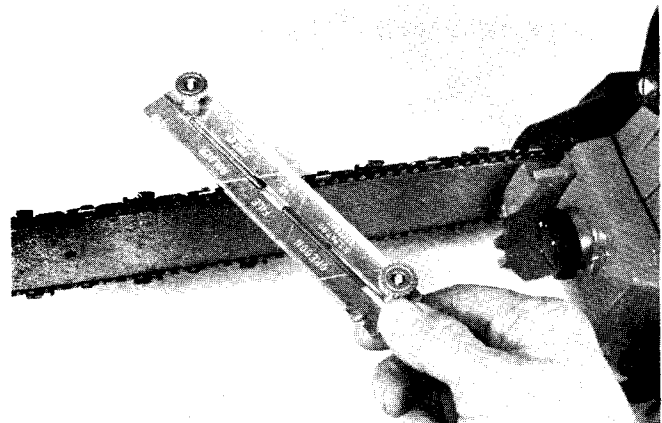

Fig. 71 — File Holder Placed on Chain for Filing all Cutters on Same Side
2. Line up filing angle mark on file holder so it is parallel with chain, Fig. 71. Keeping guide line in this position will file chain at recommended 35° angle.